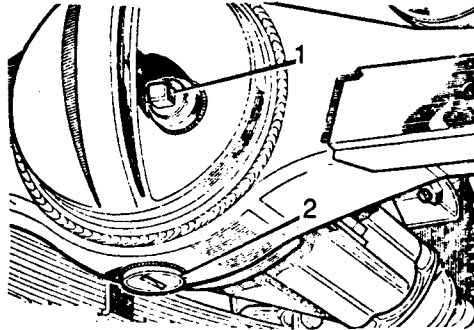

Fig J2.67
- (2) Refer to Fig J2.67. Remove the front differential filler plug (1).
- (3) Remove the front differential drain plug (2) and allow the oil to drain into the container.
- (4) Replace and tighten the drain plug using a new gasket.
- (5) Fill the front differential with oil through the filler plug hole until the oil level is up to the bottom of the filler hole.
- (6) Allow excess oil to drain from the filler hole.
- (7) Replace and tighten the filler hole plug.
- (8) Wipe off excess oil from around the two plugs.